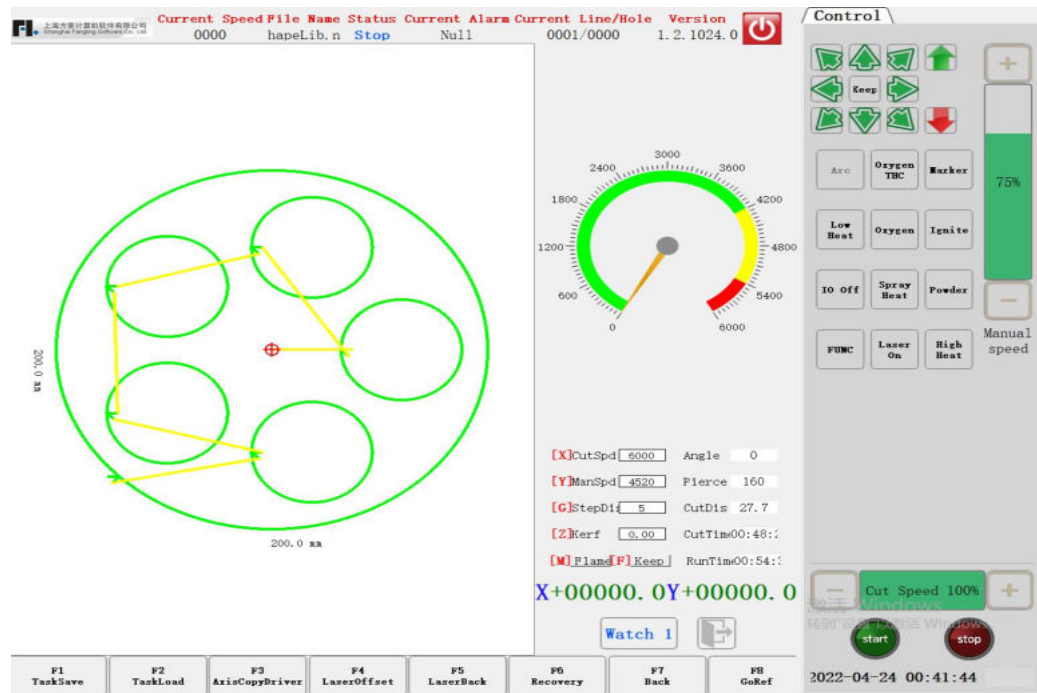

Figure 9.3 Manual interface
3. When you need to continue processing from the breakpoint, after the system is powered up, do not move the position of the cutting torch, and enter the manual moving interface by pressing [F7] at the main interface, as shown in Figure 9.3, and then press the [F6] breakpoint to recover. After recovery, if the torch is not moved and just in the position before power failure, press [START] and the system will start processing directly from the breakpoint.